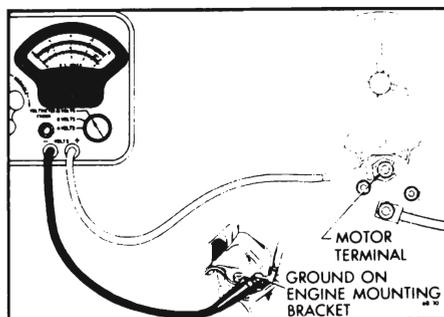

Figure 68-24--Cranking Voltage Test Connections
3. Connect voltmeter positive () lead to the motor terminal on solenoid switch; connect voltmeter negative (-) lead to ground. See Figure 68-24.